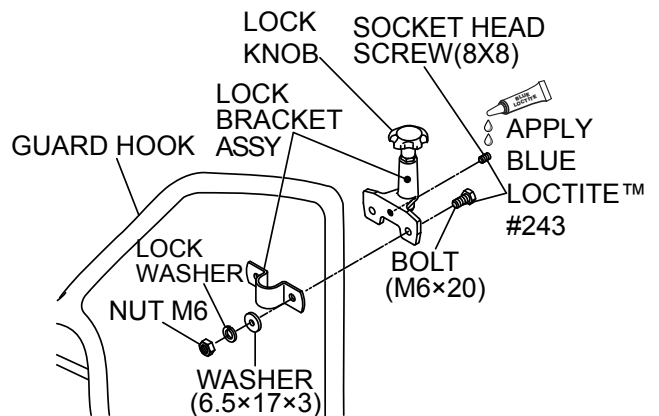

Figure 4. Lock Bracket Installation
1. Attach the lock bracket assembly (items 21 and 23) to the rear of the guard hook, using bolts (item 25), washers (items 24 and 26) and socket head screw (item 27). See Figure 4.